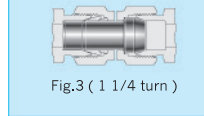

Fig.3 (1 1/4 turn)
1. Insert the tube adapter into the Hy-Lok fitting until tubing end is firmly seated on the body shoulder and make sure the nut is hand tight.(Fig.3)